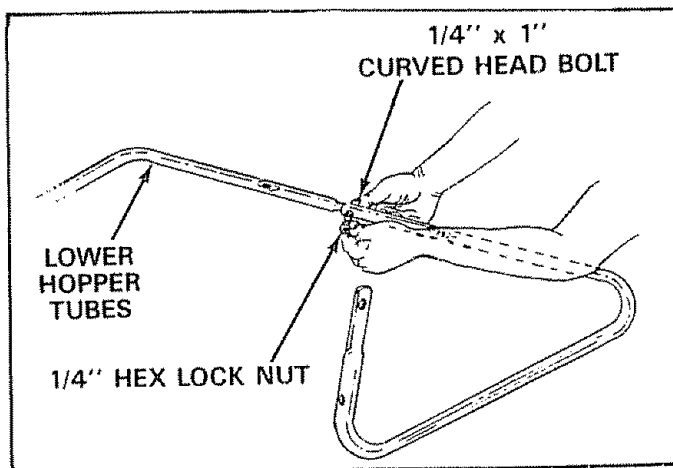

FIGURE 13
5. Assemble the two lower hopper tubes as shown in figure 13. Secure with 1/4" x 1" curved head bolt and 1/4" hex lock nut. See figure 13.